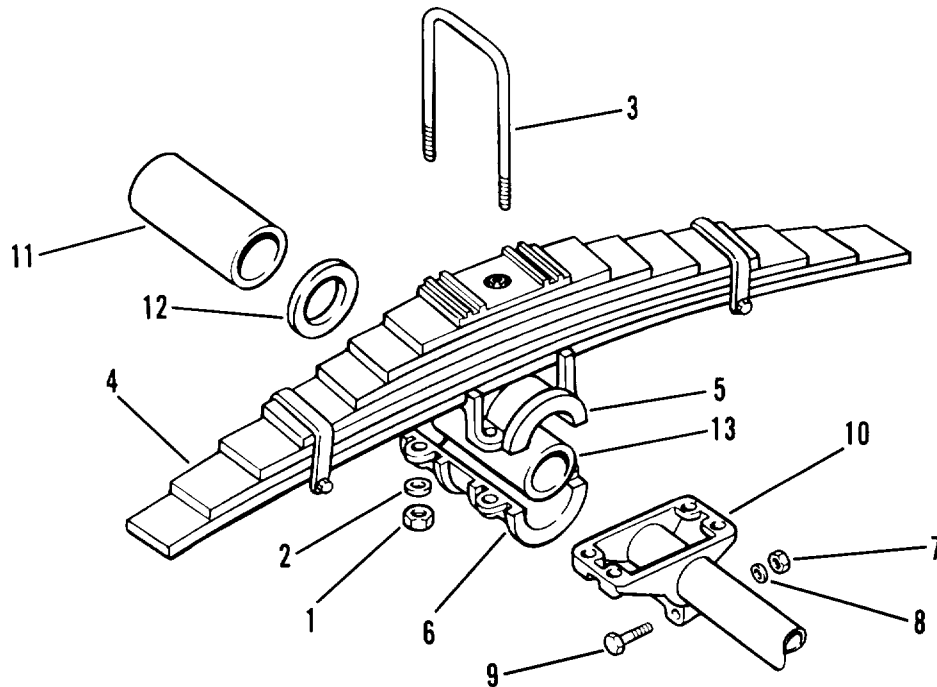

Figure 5-7. Trunnion tube
- (1) Support both sides of frame.
- (2) Using a suitable lifting device, raise semitrailer slightly.
- (3) Remove four nuts (1, figure 5-7), washers (2) and two large u-bolts (3) from each set of springs (4).
- (4) Lower semitrailer slightly.
- (5) Remove upper trunnion caps (5) and lower trunnion caps (6).
- (1) Clean and lubricate new trunnion tube (13, figure 5-7).
- (2) Install trunnion tube (13). Be certain trunnion tube is centered evenly.
- (3) Install washer (12) and teflon bushing (11) on each side of trunnion tube (13). Be certain teflon bushings (11) are evenly centered on trunnion tube (13).
- (4) Install two bolts (9), washers (8) and nuts (7) on each trunnion hanger (10) (welded to frame).